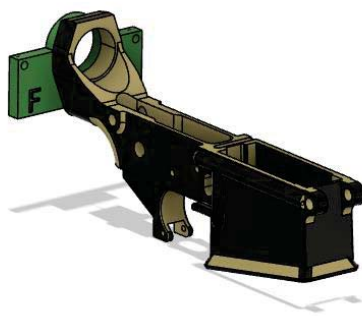

Figure 2-2
2. Install the AR10 rear block to the back side of the receiver, making note that the oval shaped protrusion mates with the receiver's cut-out section. The letters 'FWD' should be facing in towards the magazine well. Refer to Figure 2-2.